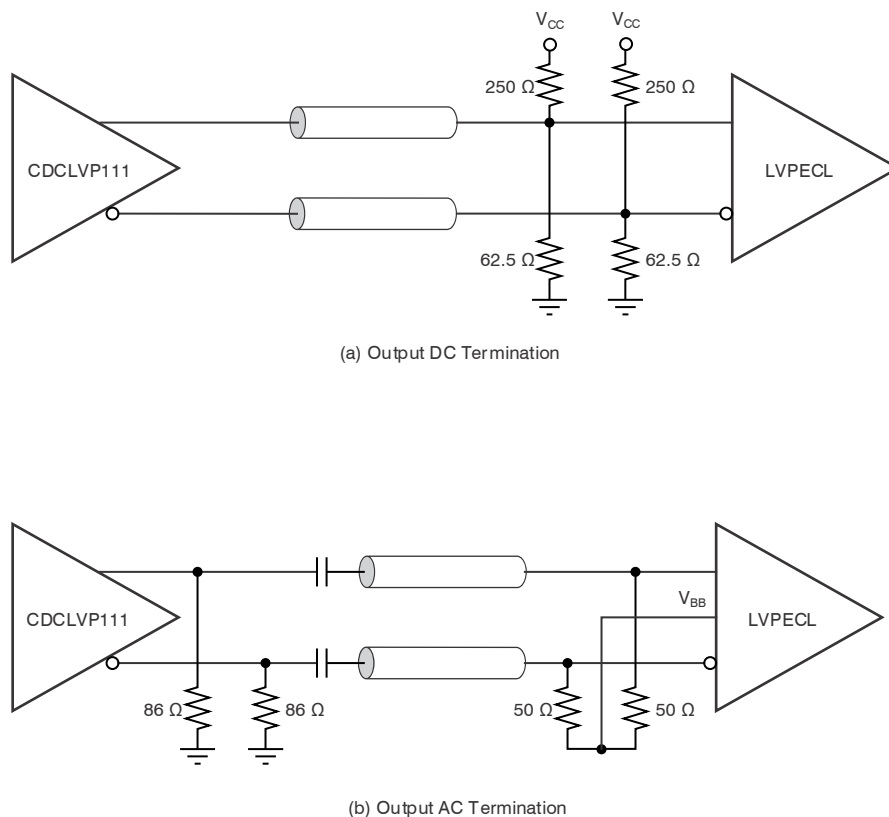
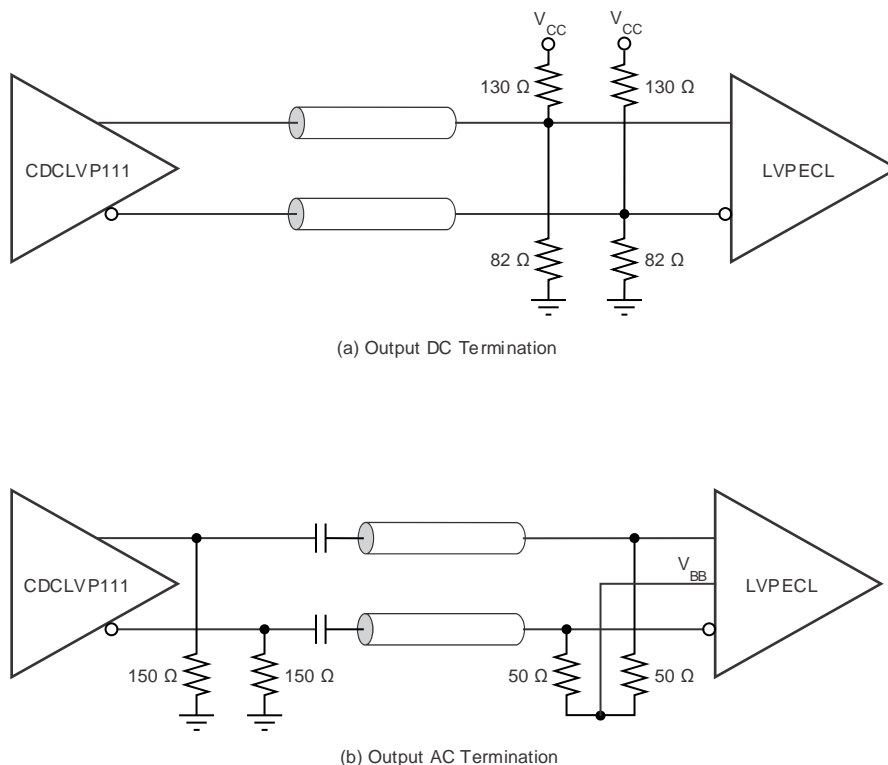

Figure 8. LVPECL Output DC and AC Termination for $V_{CC} = 2.5\text{ V}$
Figure 9. LVPECL Output DC and AC Termination for $V_{CC} = 3.3\text{ V}$
The CDCLVP111 is an open emitter for LVPECL outputs. Therefore, proper biasing and termination are required to ensure correct operation of the device and to minimize signal integrity. The proper termination for LVPECL outputs is a $50\ \Omega$ to $(V_{CC} - 2)$ V, but this DC voltage is not readily available on PCB. Therefore, a Thevenin equivalent circuit is worked out for the LVPECL termination in both direct-coupled (DC) and AC-coupled configurations. These configurations are shown in Figure 8 (a and b) for $V_{CC} = 2.5$ V and Figure 9 (a and b) for $V_{CC} = 3.3$ V, respectively. TI recommends to place all resistive components close to either the driver end or the receiver end. If the supply voltage for the driver and receiver is different, AC coupling is required.
Refer to Figure 8 for output termination schemes depending on the receiver application.